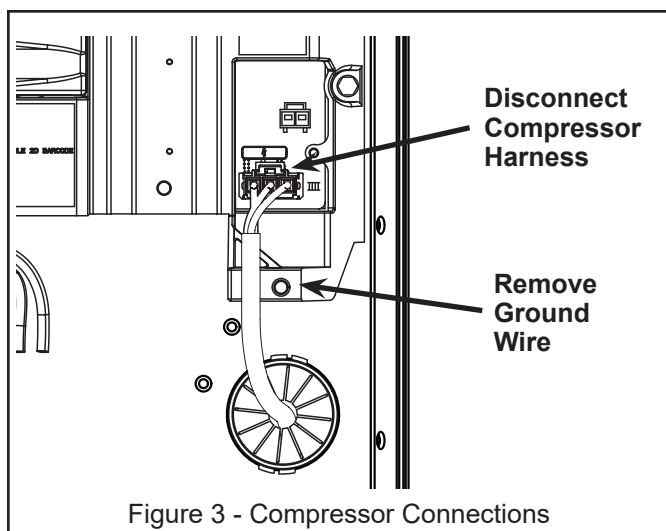

Figure 3 - Compressor Connections
1. Remove the ground wire (see "Figure 3 - Compressor Connections") located at the bottom of the Drive.